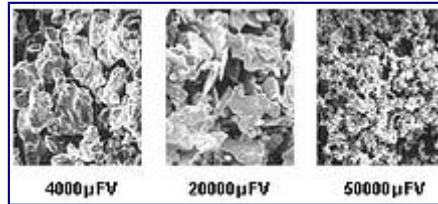

Figure 1: Tantalum powder CV/g.
Tantalum capacitors are manufactured from a powder of relatively pure elemental tantalum metal.[4][5][6] A common figure of merit for comparing volumetric efficiency of powders is expressed in capacitance (C, usually in  $\mu\text{F}$ ) times volts (V) per gram (g). Since the mid-1980s, manufactured tantalum powders have exhibited around a ten-fold improvement in CV/g values (from approximately 20k to 200k).[3] The typical particle size is between 2 and 10  $\mu\text{m}$ . Figure 1 shows powders of successively finer grain, resulting in greater surface area per unit volume. Note the very great difference in particle size between the powders.